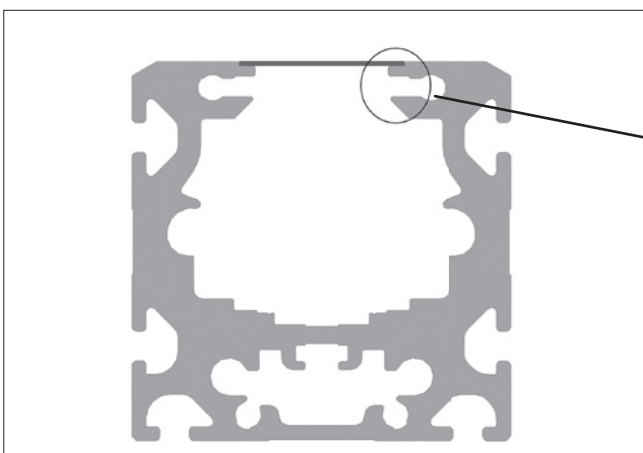

Figure 4.17 \_\_ Cover strip cross section
5. Insert new cover strip. The cover strip has a trapezoidal cross-section. When fitting the new cover strip, make sure that the wide area is below (Figure 4.17). Under moderate pressure with the hand or a smooth, not sharp-edged tool, the cover strip snaps into the groove and flushes to the upper profile edge.